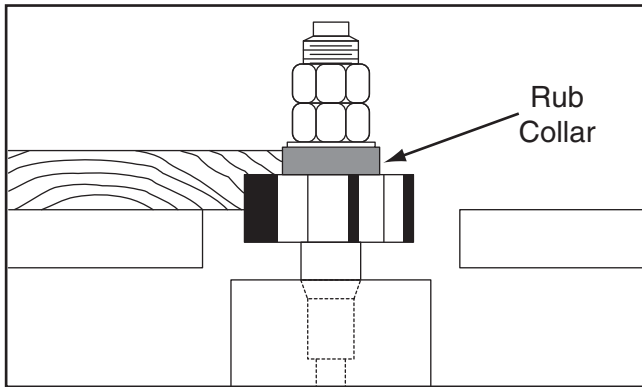

Figure 48. Cutting with rub collar above cutter.
2. **Above the cutter:** When the rub collar is used above the cutter, the cut cannot be seen (see **Figure 48**). This offers some advantage—the stock is not affected by slight variations in thickness and accidental lifting will not damage the workpiece. Simply correct any change in height by repeating the operation.